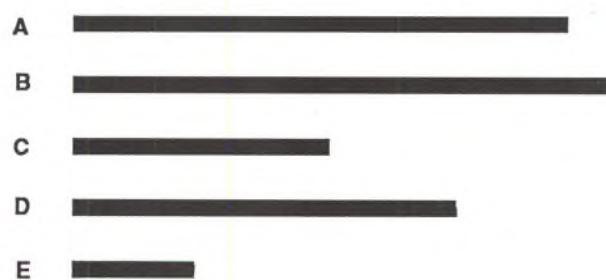

Fig. 3.3 Measure the lines and record each length.
1. Put your 1/4" scale to work by measuring each of the lines in Fig. 3.3. Write down the length of each line.